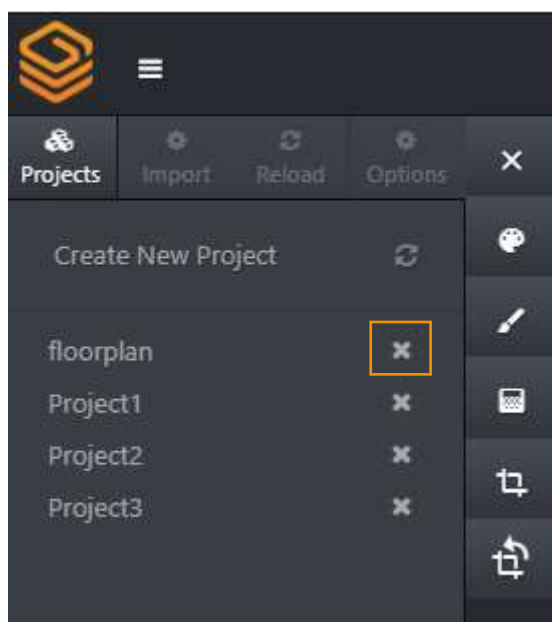

Figure 22 - Project list.
6. This will open the *Add New Project* dialog (Figure 22).